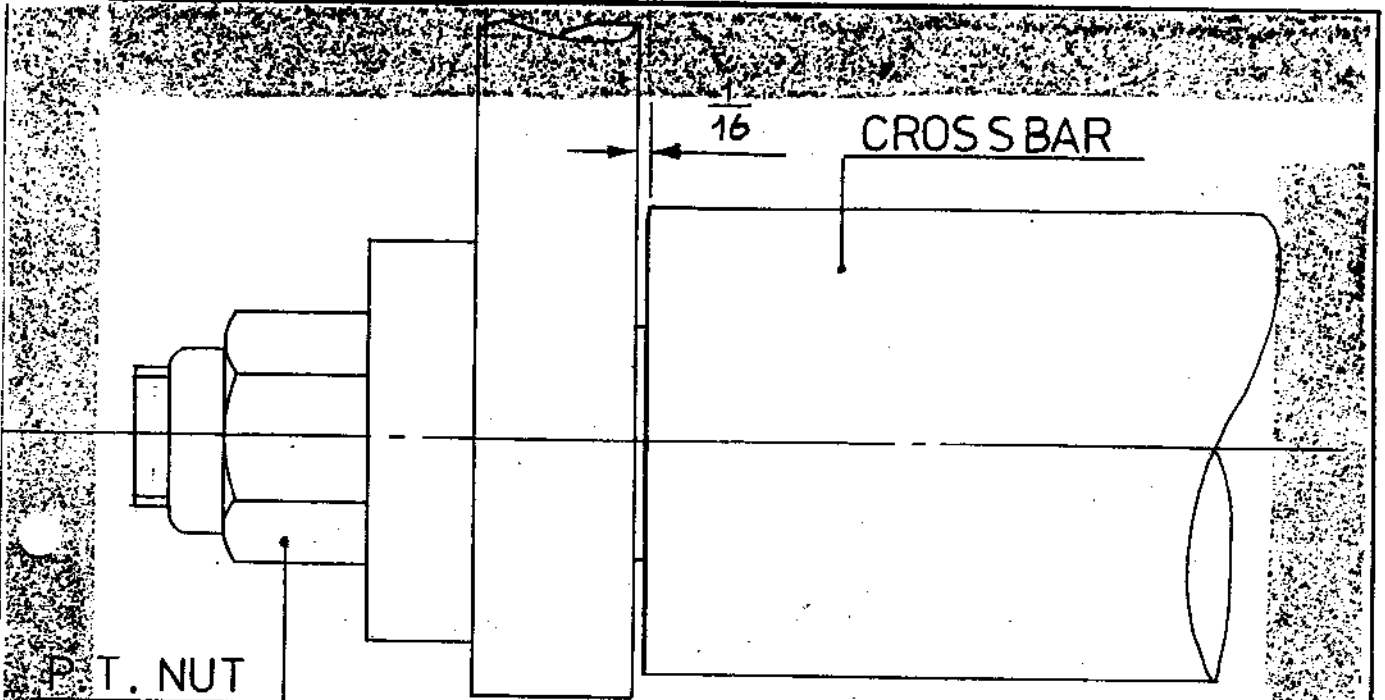

FIG. 1.
- 1.5 On all bogies the castellated or slotted nuts and split pins shall be changed to prevailing torque nuts (bent beam type) (see Figs 1 and 2). When tightened at least two threads should protrude from the nut. Where difficulty in achieving this occurs with bottom crossbeams then a thin prevailing torque nut (bent beam type) (BR Cat No 3/78131) may be used.